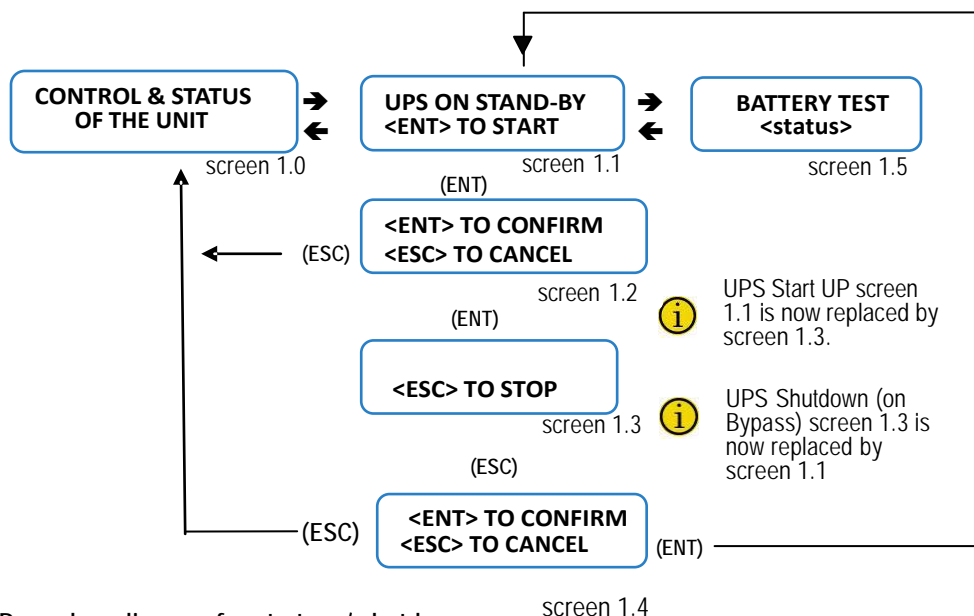

Fig.25. Procedure diagram for start-up / shutdown.
Start Up the Inverter following the procedure shown below fig 25.
- Shutdown the Inverter. Using the keypad go to "Control and Status of the Unit", then RIGHT once. The screen will ask to shutdown by pressing ESC. The confirm by pressing ENT see fig 25